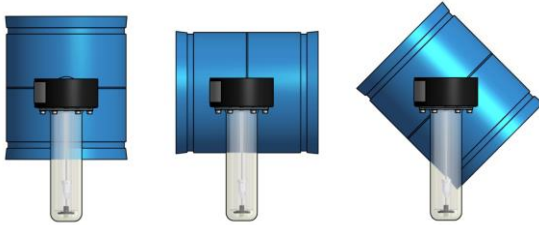
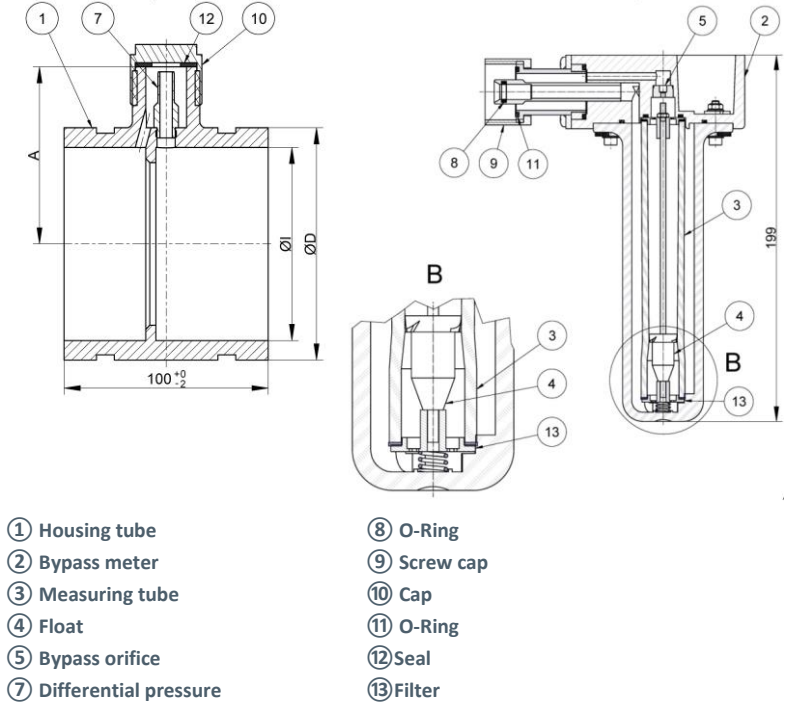

Fig. 6 Examples of installation
Fig. 9 Turbo-Lux 3 orifice plate and bypass meter, Drawing and dimensions 2"/DN 50 - 4"/DN 100
The installation can be in any line routing - horizontal to vertical - place (fig. 6). However, it is important to ensure that the flow direction of the arrow marked on the device and corresponds to the differential pressure sampling tube (fig. 9/10, pos. 7) is in the horizontal position.
The bypass meter is only compatible with the delivered orifice plate. Please make sure that the serial number of the orifice plate and the bypass meter are similar before installation. Before loosening the cap (fig. 9/10, pos. 10), the pipeline must be emptied to prevent the escape of liquids. The meter is plugged and screwed with a nut (fig. 9, pos. 9).
It must always be mounted vertically so that the float (fig. 9, pos. 4) can move freely in the tube. About foreign bodies that have come behind the filter must be removed (see 7.2). The tightening of the nut or the cap should be done by hand as possible. The threads must - for example be slippery - by fat. To avoid air strikes, the tube should be slowly filled with water.
The orifice plate flowmeter Turbo-Lux 3 consists of an orifice plate (fig. 9/10, pos. 1) for stationary installation and a portable bypass meter (fig. 9, pos. 2). The bypass meter contains a conical glass tube (fig. 9, pos. 3) with float (fig. 9, pos. 4). The water flows vertically from top to bottom through the flow tube at the upper end of a side panel (fig. 9, pos. 5) is arranged. A filter (fig. 9, pos. 13) at the inlet largely prevents the ingress of foreign bodies. Inlet and outlet port for the bypass to be measured are arranged concentrically, so that an easy to combine with the stationary primary element.
When the bypass meter is commissioned or set into operation, bubbles of air will initially accumulate at the top part, which must be removed. For this purpose, the union nut (fig. 9, pos. 9) must be somewhat loosened during operation and the device must be rotated by 360°, so that the air bubbles can escape. Then the bypass meter has to be positioned vertically and the union nut has to be tightened once again.
If the filter is blocked by deposits (fig. 9, pos. 13) the flowmeter must be returned to the manufacturer to be cleaned and tested. Ensure that the O-ring (fig. 9, pos. 8) and the M 30 x 1.5 thread of the orifice plate are lubricated with grease.